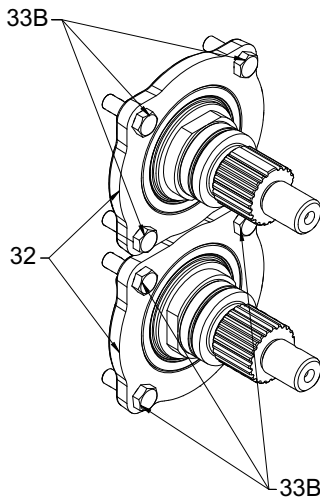

Figure 195 - Remove Bearing Retainers
- Remove the front bearing retainer screws (Figure 195, item 33B) and pull off the bearing retainers (item 32). (If a retainer is stuck, leave it in place; it will press out when the shaft is removed.)